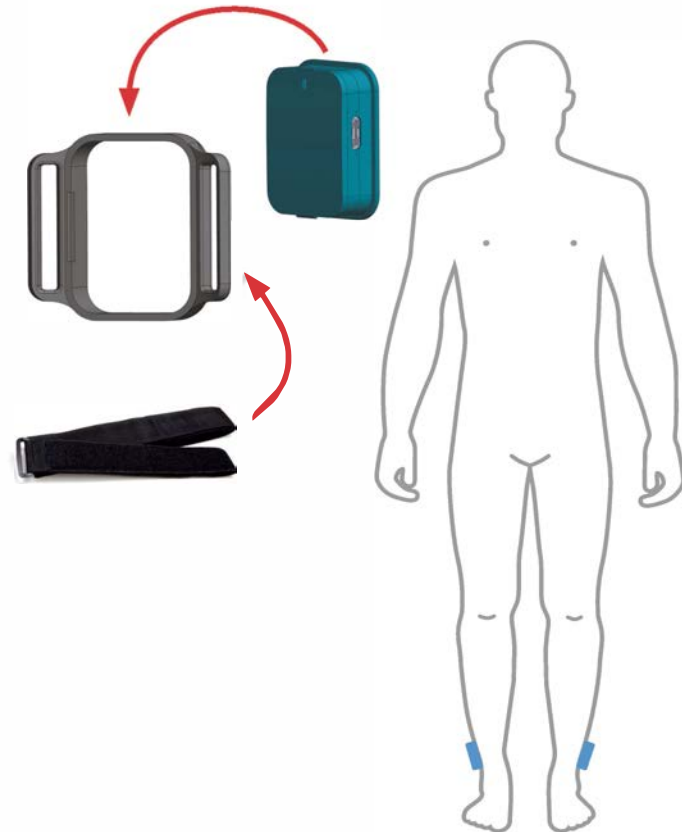

Figure 14. PDMonitor® Monitoring Devices on shanks
- Place the two Monitoring Devices using the appropriate strapframes and straps on the left and right leg as shown in Figure 14